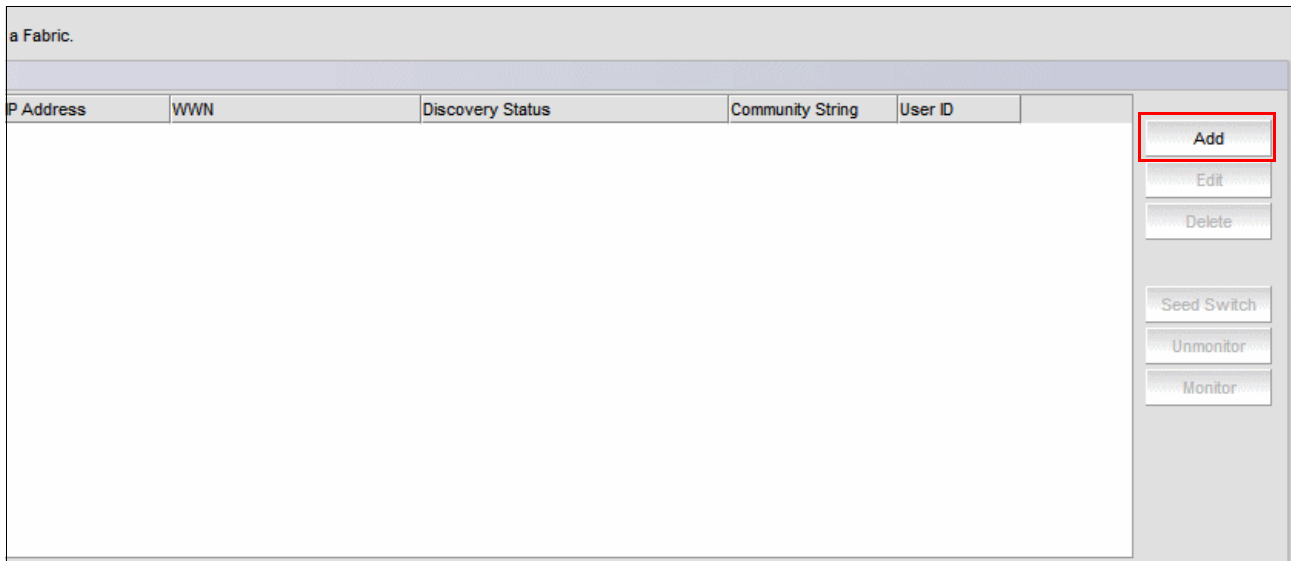

Figure 6-162 Discover Fabrics Main window
7. Click **Add** as shown in Figure 6-162.